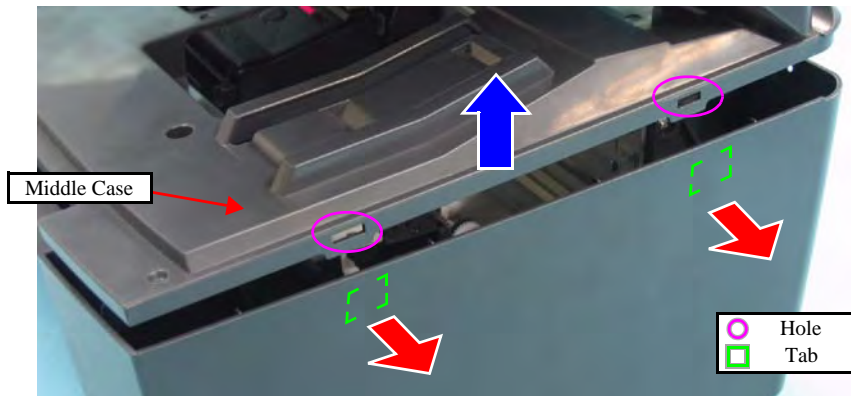
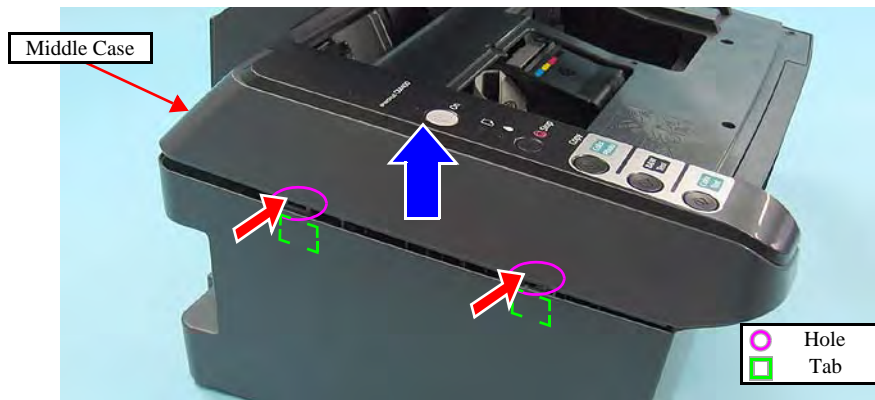
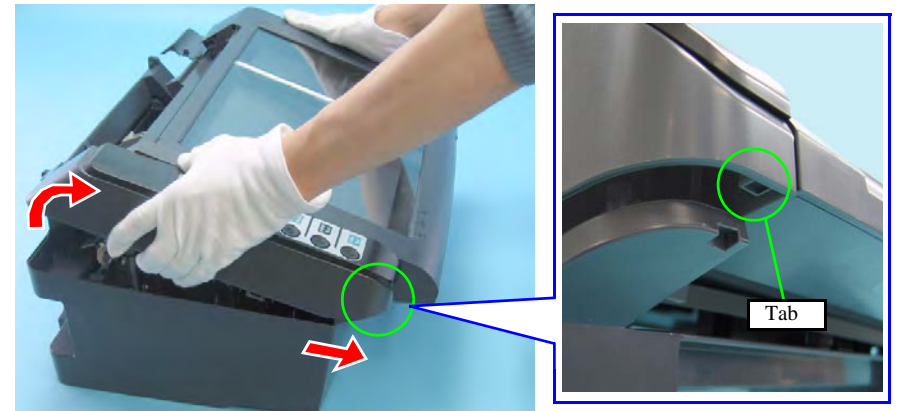

Figure 4-13. Removing Scanner Unit /Middle Case /Panel Unit (3)
Figure 4-14. Removing Scanner Unit /Middle Case /Panel Unit (4)
Figure 4-15. Removing Scanner Unit /Middle Case /Panel Unit (5)
4. Secure the Middle Case (with the Panel Unit/Scanner Unit attached) to the Lower Case engaging the left front tab (x1) (refer to Figure 4-15), then the tabs (x4) and square holes (x4) on either sides. (refer to Figure 4-13, Figure 4-14)